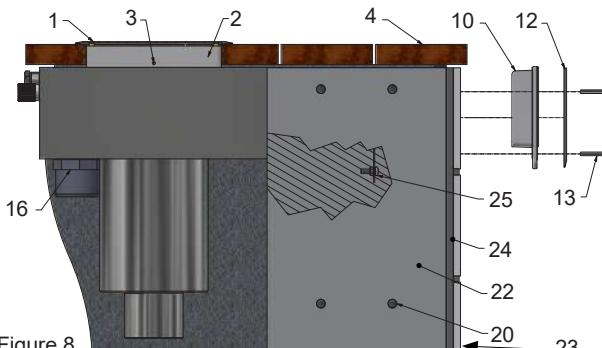

Figure 8.
8. Install the flap gate (17) and check that it is correctly located and can move.
9. Fit the mounting frame (10) and front (12) using the enclosed screws (4 M5x40), see Figure 8.
12. The drainage pipe (14) is glued to the pipe muff (15) using a suitable PVC adhesive and fitted in the skimmer with the enclosed gasket and nipple (16). Connect pipe fittings to the overflow.